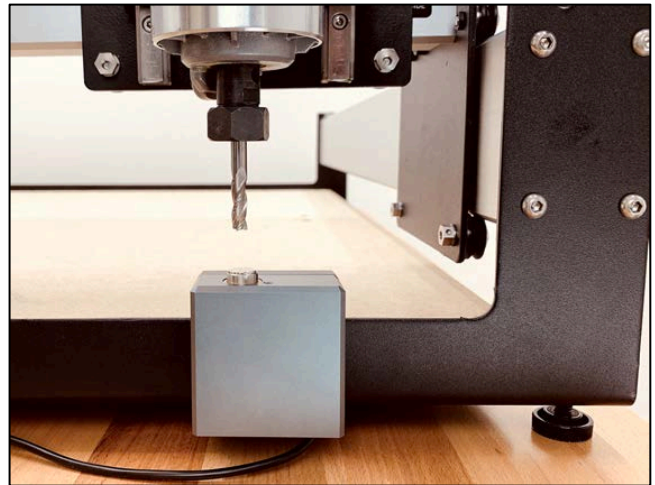

Figure 9
6. To make sure the cutter can touch the BitSetter without interference, slowly move your gantry (by hand) so it is above the BitSetter. Ensure the center of the spindle is in line with the center of the BitSetter. No need to perfectly align the two yet, we'll do that in Carbide Motion. See *Fig. 9*.